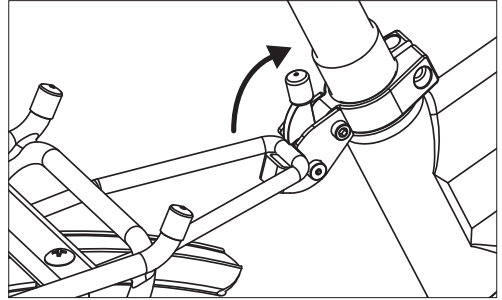

Fig. 20: Opening RackStand latch.
1. Prior to removing the front wheel or folding the bike, lift up the latch under the seat to release the RackStand (Fig. 20).
- RackStand™ quick release (Fig. 20, page 25). Not on all models.